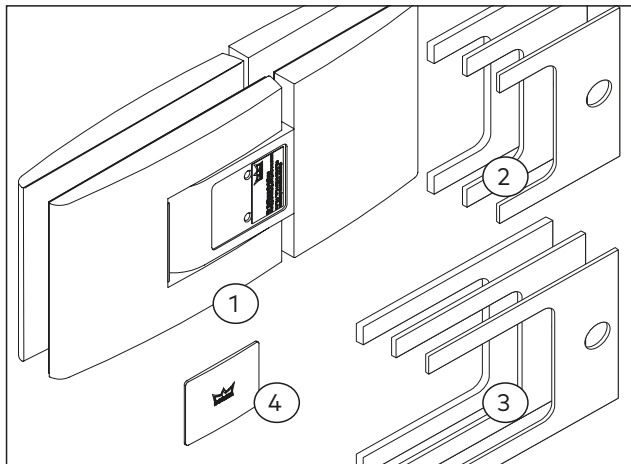

Fig. 46 Scope of delivery of the glass to glass mounting
- ▶ 2 x double action hinge (Fig. 46/ 1)
- ▶ Gaskets side panel each 4 x in 3 different thickness levels: 1 mm, 2 mm, 3 mm (Fig. 46/ 2)
- ▶ Gaskets glass door leaf each 4 x with 3 various thickness levels: 1 mm, 2 mm, 3 mm (Fig. 46/ 3)
- ▶ 12 x cover cap in 3 different colors (Fig. 46/ 4)